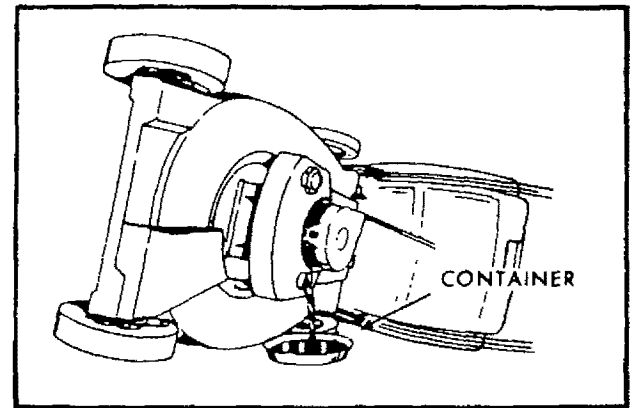

FIG. 29
2. Tip mower on its side as shown in Fig. 29 and drain oil into suitable container. Rock mower back and forth to remove any oil trapped inside of engine.